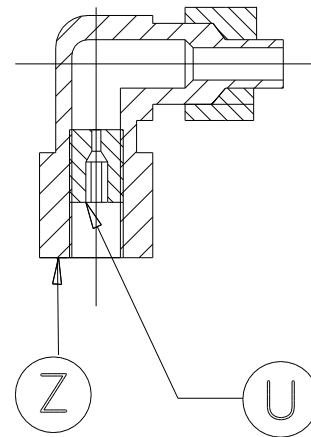

Figure 13.4-4 Nozzle oil recovery
Control and clean the oil recovery is to be performed, should you find a leak of oil mist mixed with air compressed, operating as follows (Figure 13.4-4).
- 1) Unscrew the fitting located at the center of the tank (Letter Z in Figure 13.4-4);
- 2) Inside the ring (Letter Z in Figure 13.4-4) is a nozzle (Letter U in Figure 13.4-4): make sure that its calibrated hole is not blocked (blow with compressed air);
**WARNING:** During normal operation of the compressor, in the pipe from the fitting transparent part (Z), you will notice a certain amount of oil flow from the said fitting (Z) towards the head of the compressor